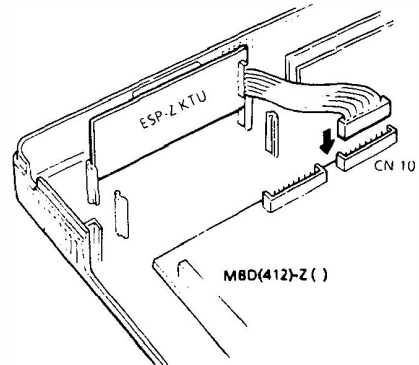
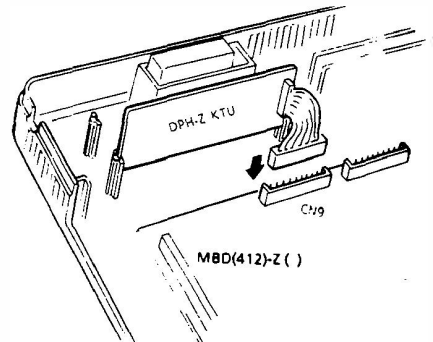

Figure 200-20 ESP-Z KTU Connection
Figure 200-21 DPH-Z KTU Connection
- Mount the ESP-Z and DPH-Z Units as shown in Figure 200-20 ESP-Z KTU Connection and Figure 200-21 DPH-Z KTU Connection.